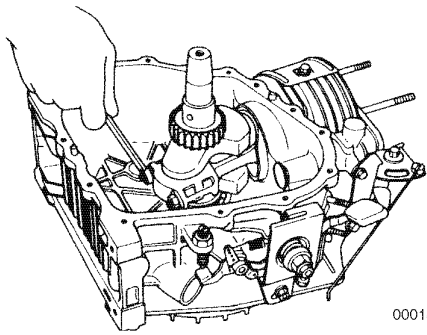

Figure 8-44
9. Remove the connecting rod bolts (**Figure 8-44**).